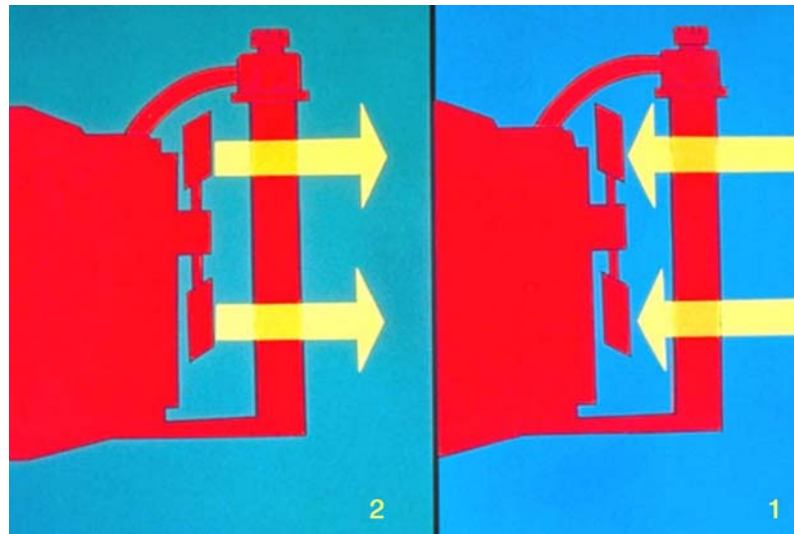

Figure 28
Fans fitted to machines can be either a conventional suction fan or blower type fan. (Figure 28) Suction fans (1) draw outside air through the radiator, across the engine and exhaust through spaces at the rear or underneath the machine.